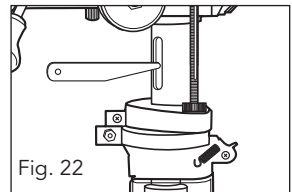

Fig. 22
3. Eject the tapered shank using the supplied drift key (27), taking care as you do so to ensure that the tool chuck does not land on the floor (Fig. 22).